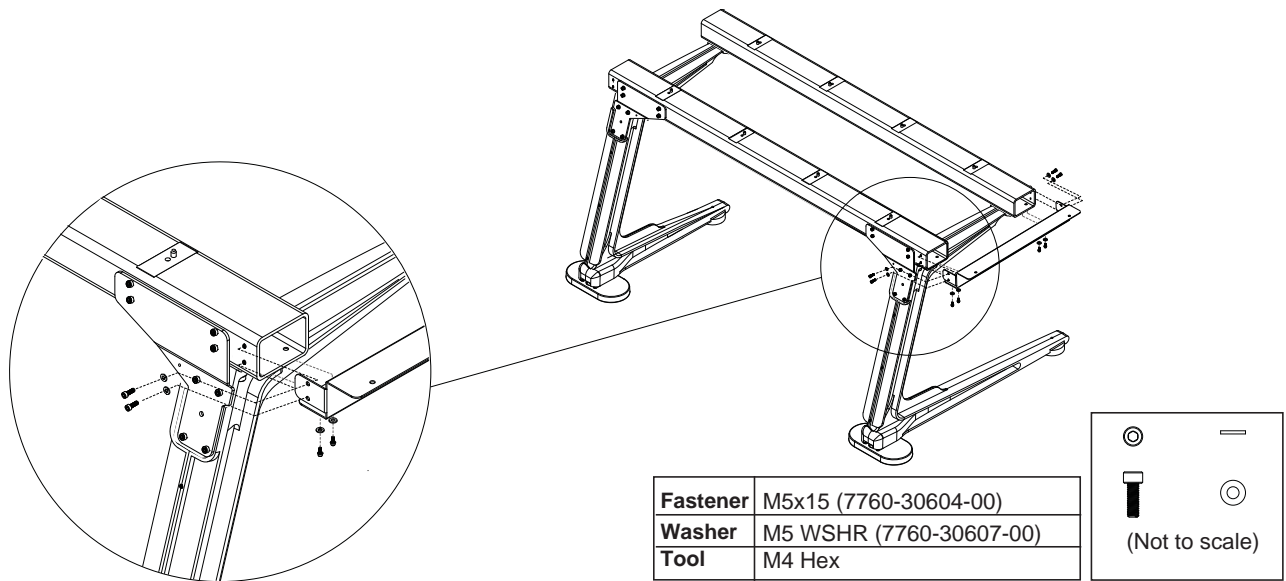

Figure 7. Rear view of attaching the End Bracket to the left frame
- When assembling the left frame, attach an End Bracket as shown in Figure 7 (rear view shown). Do not tighten the fasteners fully.